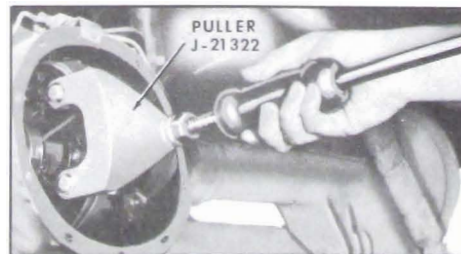

Fig. 6-11—Removing Differential Assembly
3. Remove two ring gear retaining bolts from differential case and install Ring Gear & Case Remover J-21322 with slide hammer as shown in Figure 6-11. Remove case assembly and place right and left bearing outer races and shims in sets with marked bearing caps so that they can be reinstalled in their original positions.